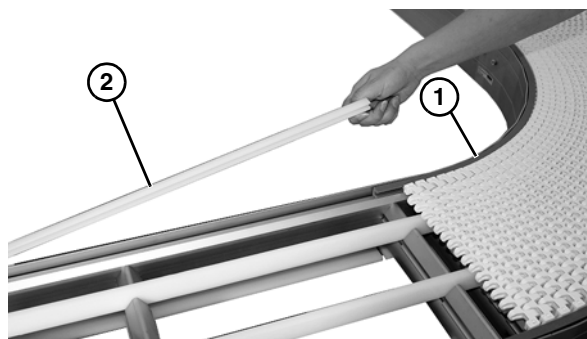

Figure 17
5. On curve conveyors, install belt through wear strip (**Figure 17, item 1**) and install wear strip (**Figure 17, item 2**) on straight conveyor sections before installing and connecting belt.